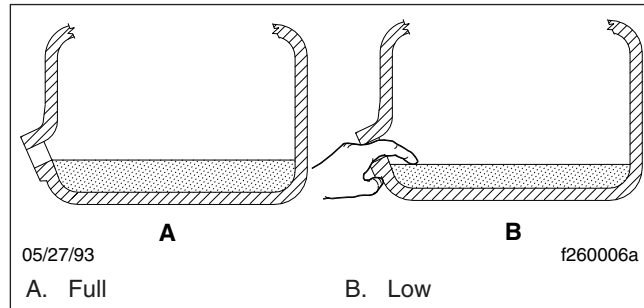

Fig. 2, Checking Transmission Fluid Level
2. Using your finger or a bent pipe cleaner, see if the fluid is level with the fill opening. See Fig. 2.